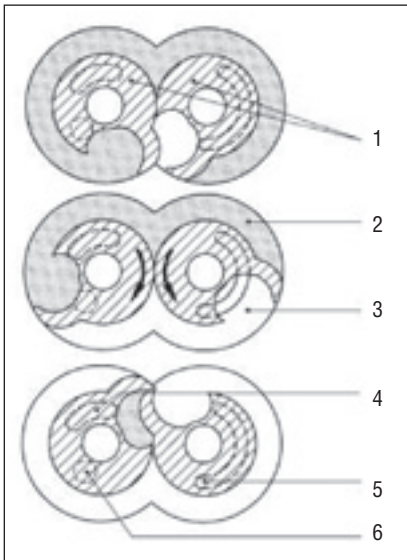

Fig. 4. Working principle of a claw pump
At the beginning of the work cycle (Fig. 4), the right rotor just opens the intake slot (5). Gas now flows into the continually increas-